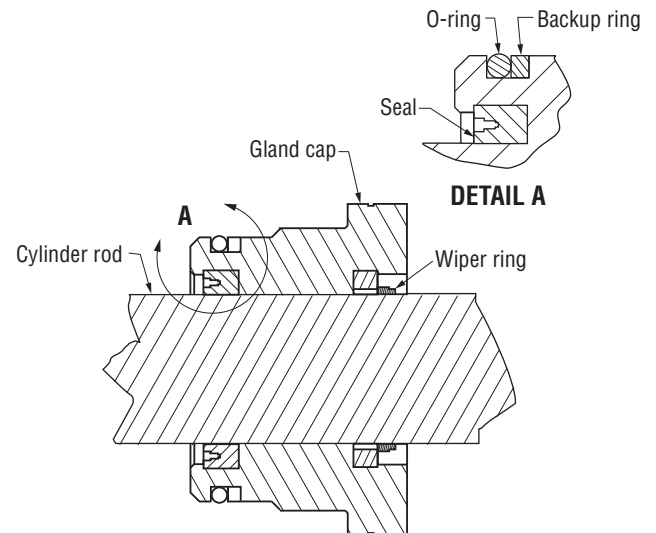

Figure 22, Gland cap seal
3. Install the seals and wipers in the gland cap. Note the direction of the seals. The cupped side or O-ring side of the seal should be facing the piston. (Figure 22)